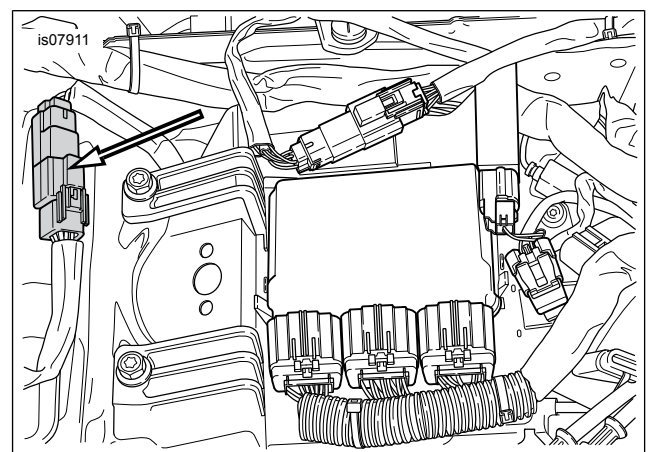

Figure 1. Six-Way Rear Lighting Harness Connector [7] Under Seat (FLHR/C Shown)
1. See Figure 1. Locate the rear wiring harness coming out of the rear fender in the area underneath the seat. Unplug the six-way Multilock rear fender wiring connector [7B] from the main harness connector [7A].